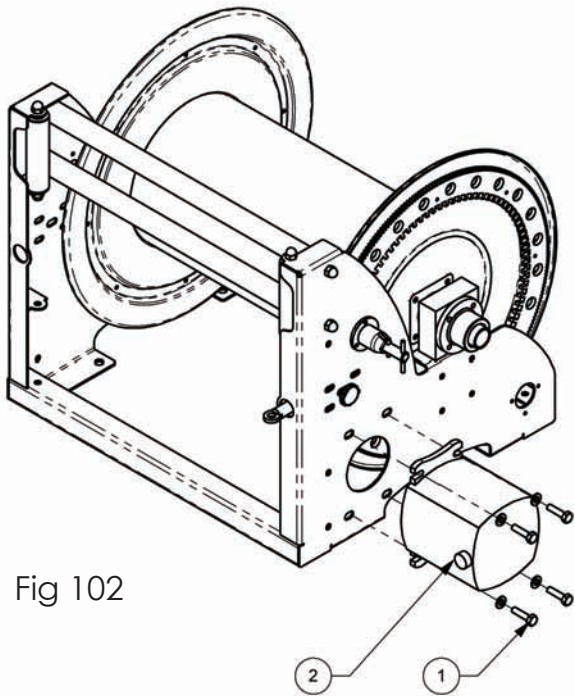
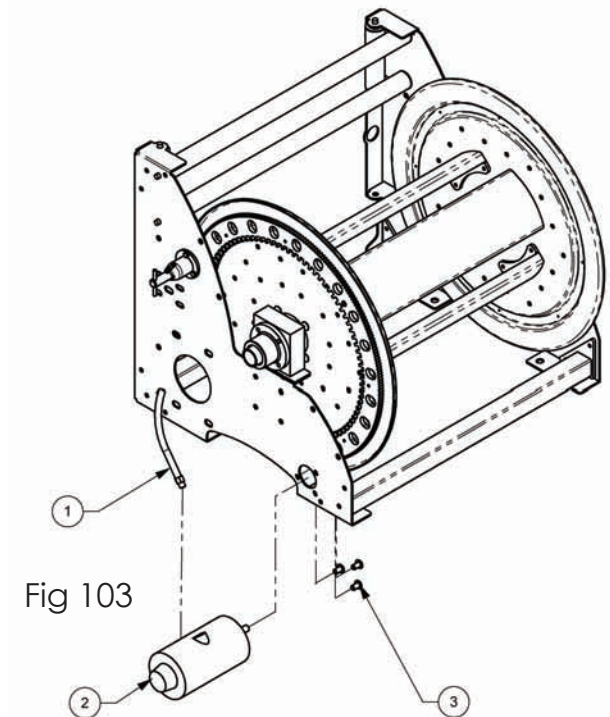
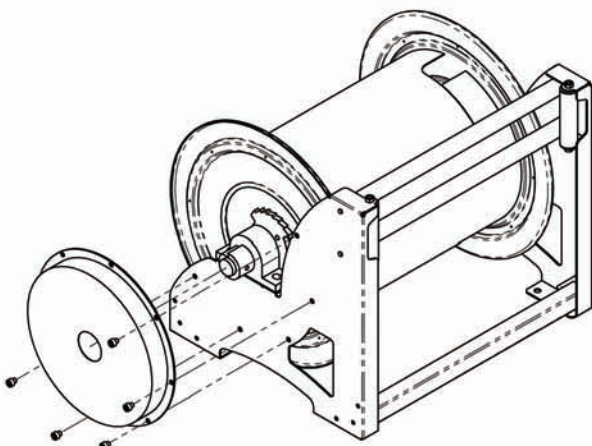
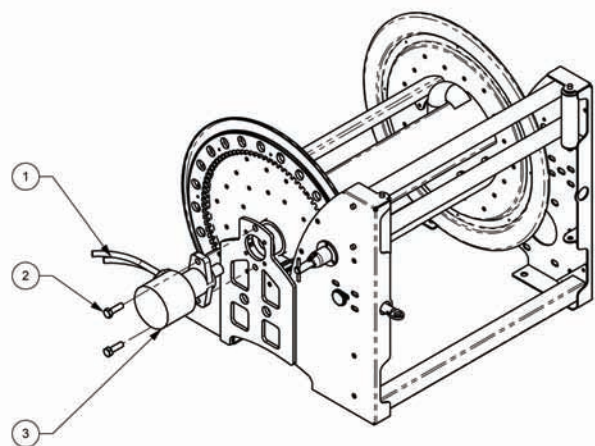

Fig 102
Fig 103
Fig 105
Fig 104
## Replacing the drive system - Fig 102, Fig 103, Fig 104, Fig 105
- Fig 102 - 12 & 24 VDC, 110 VAC, 240 – 415 VAC, Gear drive hydraulic drive systems
- Fig 103 - air drive systems
- Fig 104 - direct drive hydraulic
- Fig 105 - spring drive systems, see further on in this manual for details.